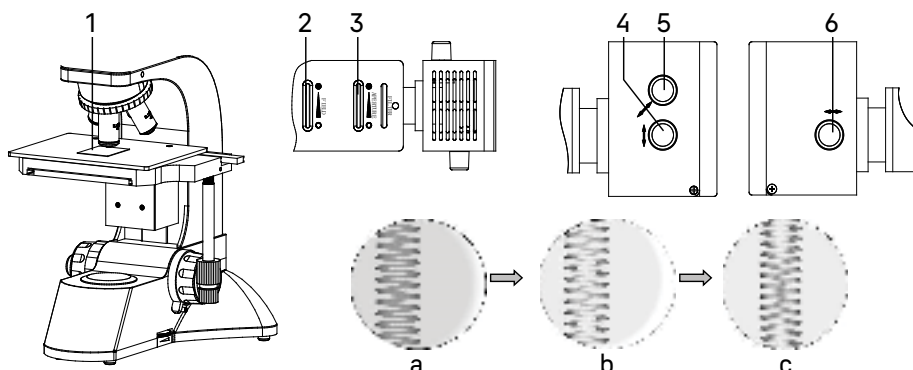
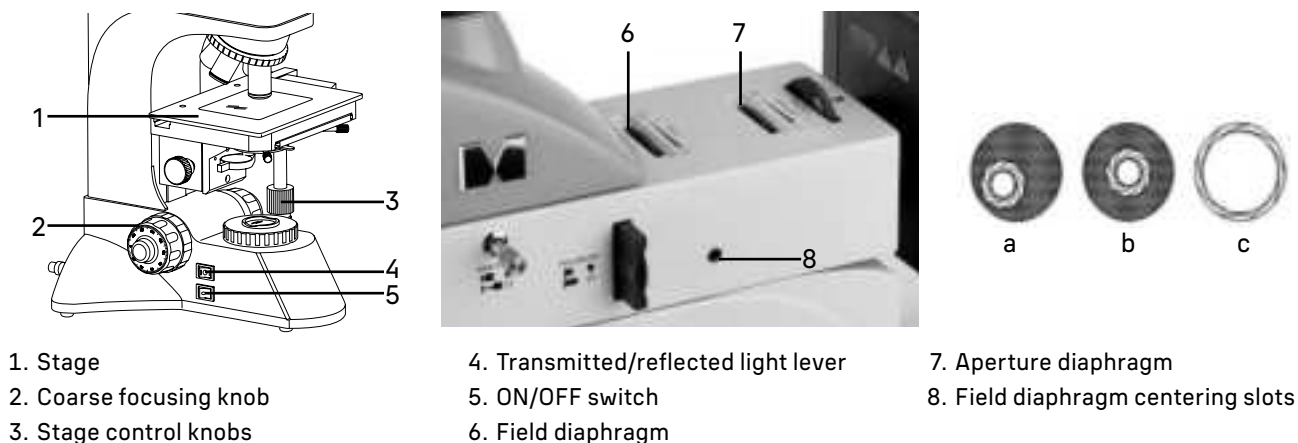

Fig. 16. Centering the light source
Fig. 17. Centering the field diaphragm
1. Place a sheet of white paper 1 (approximately 40x50mm) on the stage as shown in Fig. 16.
3. Open the field 2 and aperture 3 diaphragms (Fig. 16). A brightly illuminated spot will appear on the paper showing the filament, as shown in Fig. 16c.
4. If the filament image is blurry, adjust the position of the collector using the knob 6 (Fig. 16).
5. If the filament image is offset from the center of the light spot, as shown in Fig. 16b, manipulate the lateral alignment knob 4 and the vertical alignment knob 5 (Fig. 16) to center the light source.
- Make sure that the power supply and the illuminator are switched on: switch 5 (Fig. 16) is in the "-" position, switch 4 (Fig. 17) is in the "II" position, and the lever 4 (Fig. 2) is in the reflected light position.
- Introduce the 10x objective into the optical path, place the specimen on the stage 1 (Fig. 17), focus, and adjust the eyepieces.
- While looking through the eyepieces, close the field 6 (Fig. 17) and aperture 7 (Fig. 17) diaphragms so that only the center of the field of view is illuminated.
- Verify the centering of the field diaphragm image. If necessary, center the image with two centering wrenches, having previously installed them in the sockets 8 (Fig. 17) located on both sides of the illuminator.
- Open the field diaphragm 6 (Fig. 17) until it just disappears outside of view. Close the aperture diaphragm 7 (Fig. 17) to achieve the desired contrast and the optimal level of illumination.
- When you change an objective, adjust the opening of the field diaphragm 6 (Fig. 17). It should always be slightly larger than the field of view.
- When you change an objective, adjust the opening of the aperture diaphragm 7 (Fig. 17). When using low-magnification objectives, reduce the aperture diaphragm opening; when using high-magnification objectives, increase the aperture diaphragm opening. Make sure that the image is clear and high-contrast.